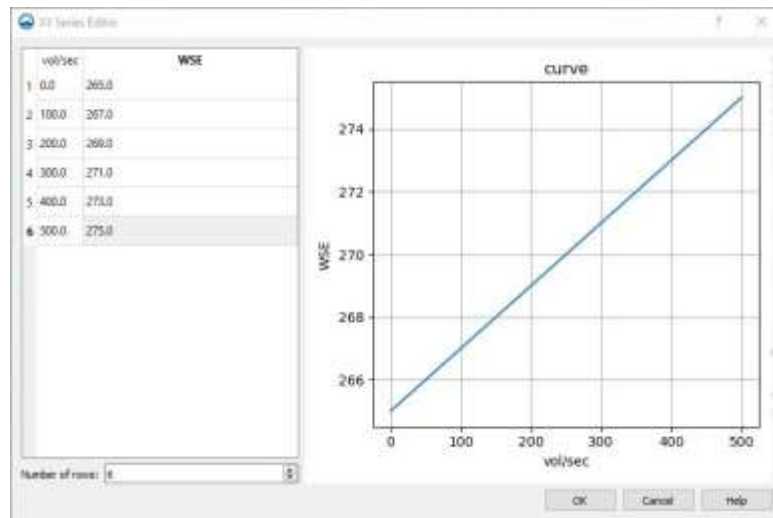

Figure 4 Rating curve in the XY Series Editor dialog
12. Copy the values from the *Elevation (m)* column in the “RatingCurve.xls” file to the *WSE* column in the *XY Series Editor* dialog. The graph should appear as in Figure 4.